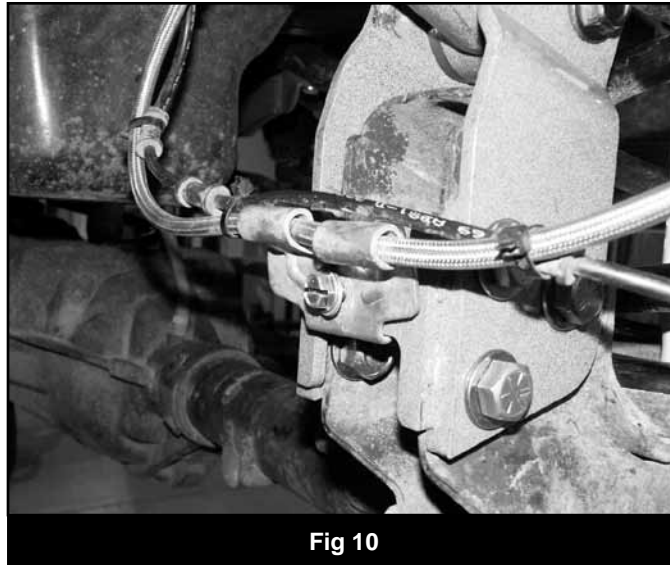

Fig 10
39. Attach the brake line to the hole in the upper control arm relocation bracket with a 5/16" x 1-1/4" self-tapping bolt. Torque to 15 ft-lbs. (Fig. 10) *Note: If installing BDS extended brakelines, they can be attached to the original brakeline axle mount.*